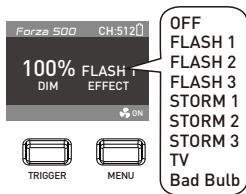

Figure 4
- ④Forza 500 provides 9 different light modes, turn on the fixture to enter the main interface and rotate the "Function Knob" clockwise, the order on the display is"FLASH 1(0.25 seconds)/FLASH 2(1 seconds)/FLASH 3(0.1-6 seconds)/STORM 1(flash for 7 times continuously) /STORM 2(flash for 7 times continuously)/STORM 3(10-15 seconds in random variations)/TV/Bad Bulb. (As shown in figure 4)